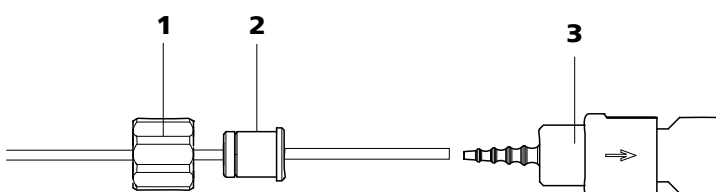

Figure 9 Install pump tubing with filter
- **Case A:** connect a 6.2744.180 pump tubing connection **with filter** (see Figure 9, page 16) or